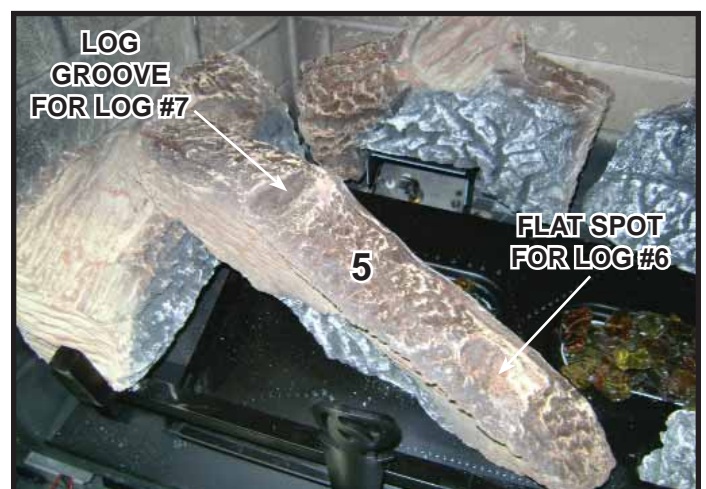
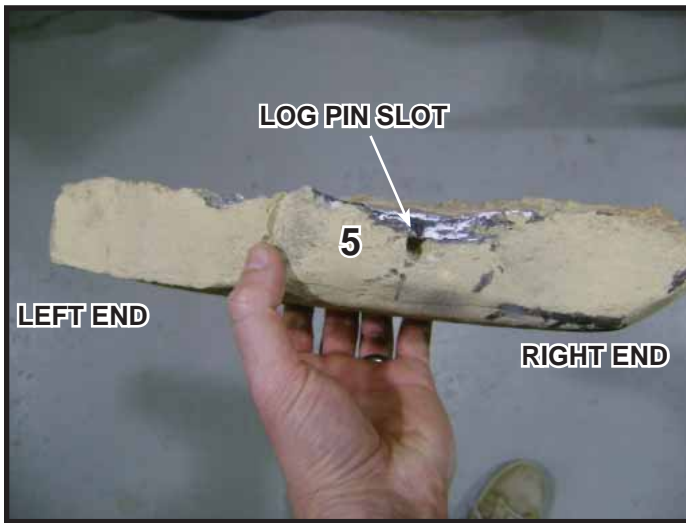
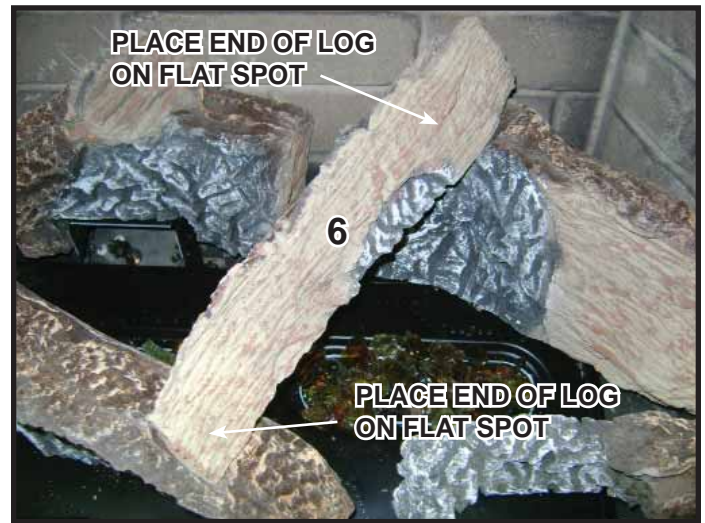
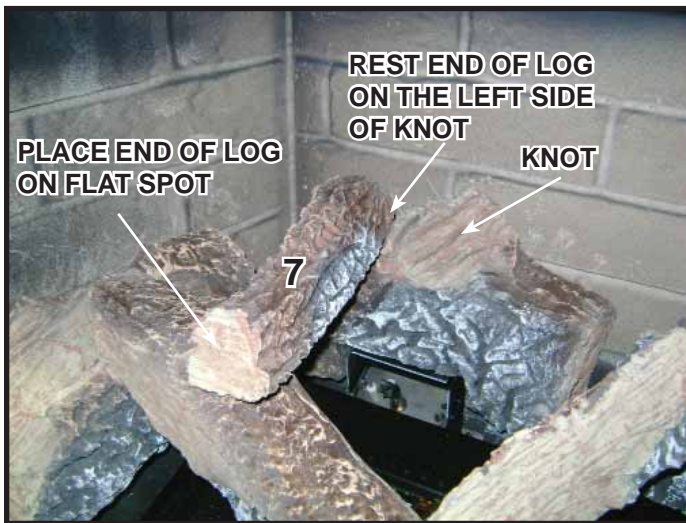

Figure 11. Place Log #5
Figure 12. Log #5 - Bottom View
Figure 13. Place Log #6
Figure 14. Place Log #7
**Log #5 (SRV2221-704):** Position Log #5 as shown in Figure 11. See Figure 2 and Figure 12 for additional references. Rest the left end of Log #5 on the flat spot indicated in Figure 7. Mate the slot, located on the bottom of the log, with the left log pin. Ensure the nose of the log does not cover any burner ports.
**Log #6 (SRV2221-705):** Position Log #6 as shown in Figure 13. See Figures 2, 5 and 11 for additional reference points. Place the front end of log #6 on the flat spot indicated in Figure 11. Place the back end of Log #6 on the flat spot indicated in Figure 5.
**Log #7 (SRV2221-707):** Position Log #7 as shown in Figure 14. See Figure 2 and 11 for additional reference points. Place the front end of Log #7 on the flat spot indicated in Figure 11. Place the back end of Log #7 on the left side of the knot. See Figure 14.